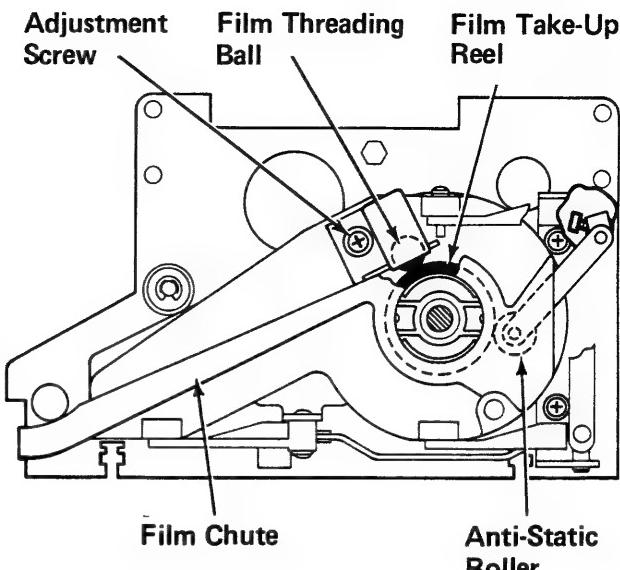

Figure 3-12A
1. Loosen the Adjustment Screw (Figure 3-12A) and raise the Film Threading Ball Assembly to its highest position.